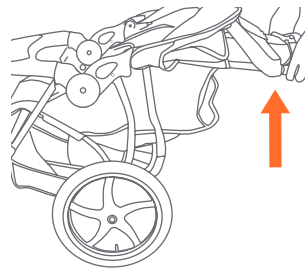

Fig. 23b
• Lift up on the stroller handle with both hands until the stroller frame is erected and locked in the open position (Fig. 23b). The stroller has spring-loaded latches on both sides of the frame. Test that both latches are fully engaged prior to placing your child in the stroller.